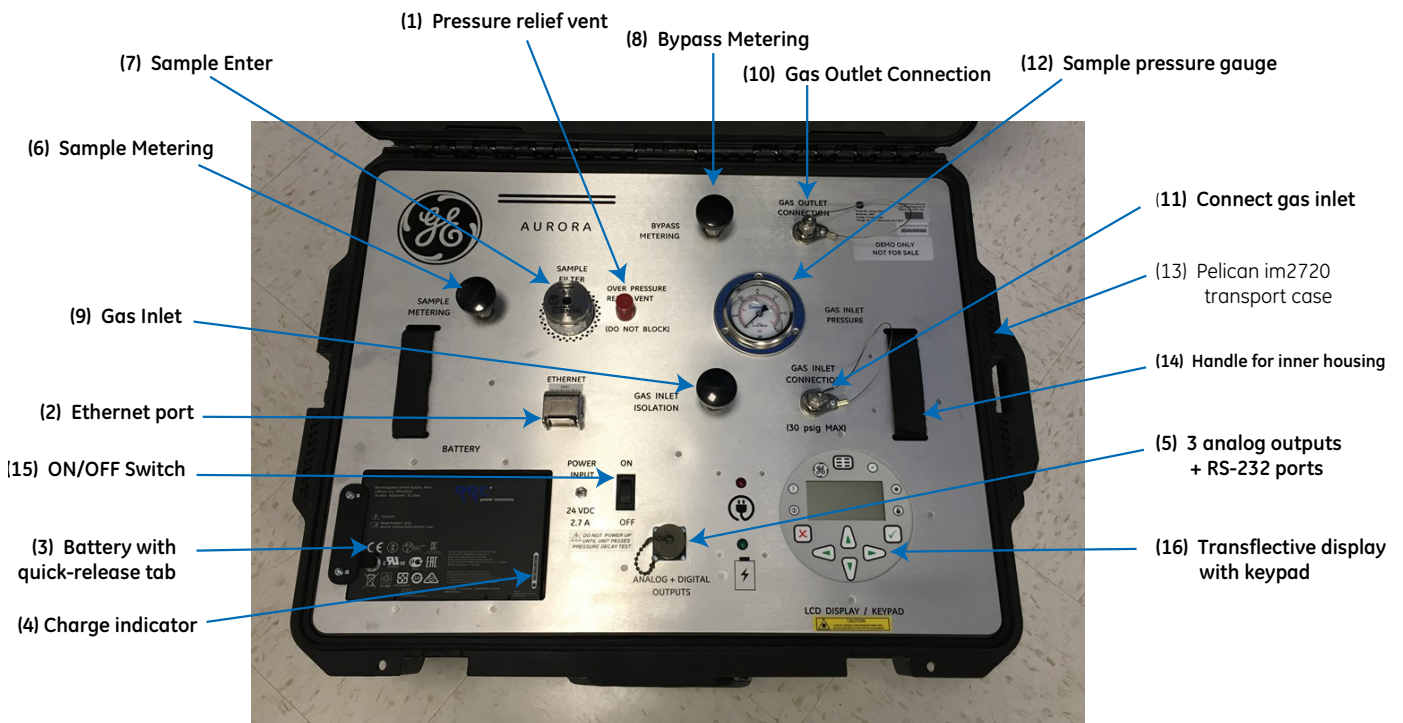

Figure 4: Front Panel of BHGE Aurora TransPort
Refer to Figure 4 below to locate components referenced in the startup guide.
1. Ensure the Pelican transport case (13) is lying flat and horizontal on a stable surface before opening the cover.
2. Install the Li-ion battery shipped with the unit into battery slot after loosening tab (3) on left with orientation as shown in Figure 4.